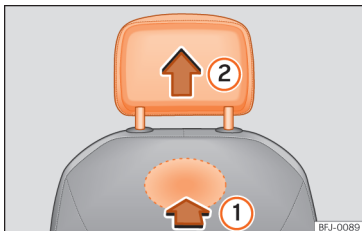

Fig. 99 Front head restraint: removal.
- To unlock it, look for the rabbet on the bottom of the backrest and press in the direction of the arrow >>> **Fig. 99 ①**.
- Remove the head restraint in the direction of the arrow **②**.